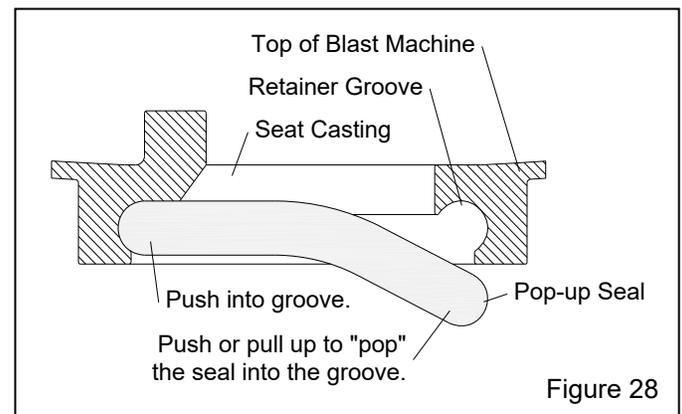

Figure 28
7.9 Replacing Pop-Up Valve Seal – Figure 28